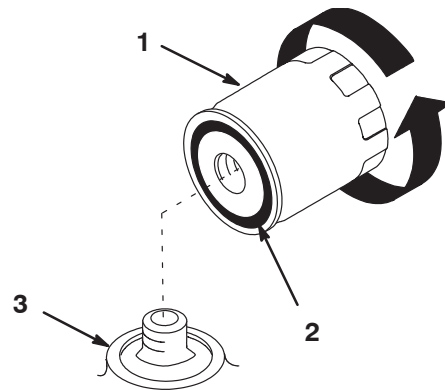

Figure 22
2. Remove the old filter and wipe the filter adapter (Fig. 22) gasket surface.
3. Apply a thin coat of new oil to the rubber gasket on the replacement filter (Fig. 22).
4. Install the replacement oil filter to the filter adapter. Turn the oil filter clockwise until the rubber gasket contacts the filter adapter, then tighten the filter an additional 1/2 turn (Fig. 22).